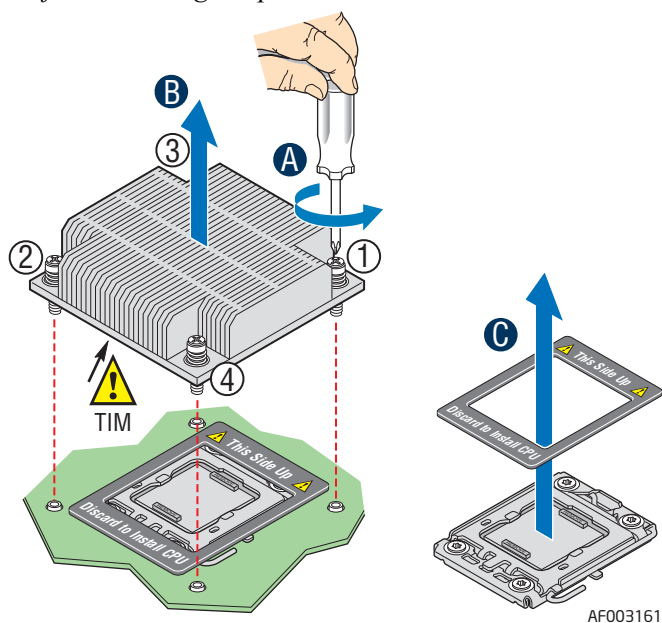

Figure 9. Removing the Heatsink
5. Loosen the four captive screws on the heatsink corners in a diagonal manner according to the numbers shown in Figure 9 as follows:
- a. Starting with the screw at location 1, loosen it by giving it two rotations in the anticlockwise direction (see letter “A” in Figure 9) and stop. (**IMPORTANT:** Do not fully loosen.)
6. Lift the heatsink from the board (see letter “B” in Figure 9).
7. Remove and discard the spacer (see letter “C” in Figure 9).